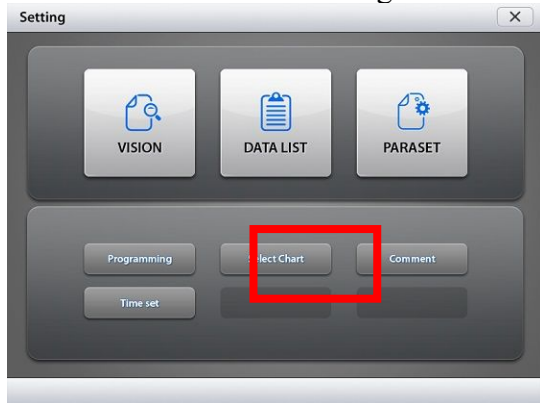

Figure 3
- Turn on power of PDR-7000. When the PDR-7000 has finished booting, press the Menu button on the right side of the control panel keyboard to go to the Setting menu (Figure 3).